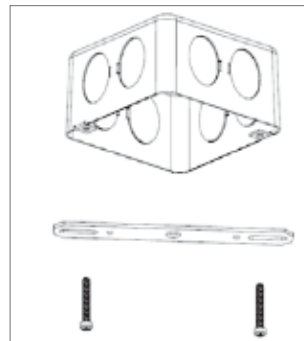

FIGURE 2
**B)** For 3.5" and 4" junction boxes, align appropriate holes on the mounting bracket with the holes on the junction box. Use of the included screws (M4x40 screws) to attach the mounting bracket to the junction box. Mounting bracket should be flush with the ceiling. For 2.75" junction boxes, skip this step. (Figure 2 & 3)